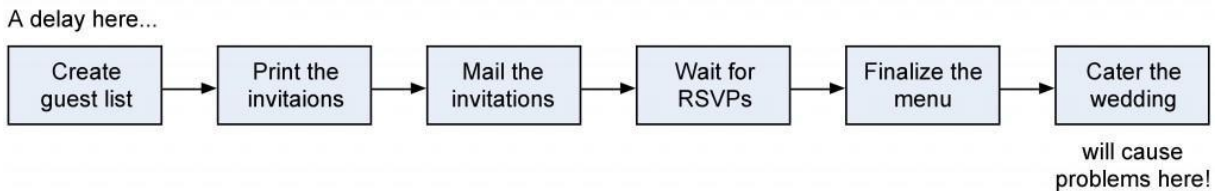

Figure 10.1: An example of problems that can be caused within the critical path.
The reason that the critical path is critical is that every single activity on the path must finish on time in order for the project to come in on time. A delay in any one of the critical path activities will cause the entire project to be delayed (Figure 10.11).
1. Figure 10.1: Illustration from Barron & Barron Project Management for Scientists and Engineers, <http://cnx.org/content/col11120/1.4/>